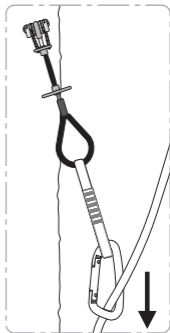

Figure 3
- Align the Basic Cam with the expected loading force (**see figure 3**).